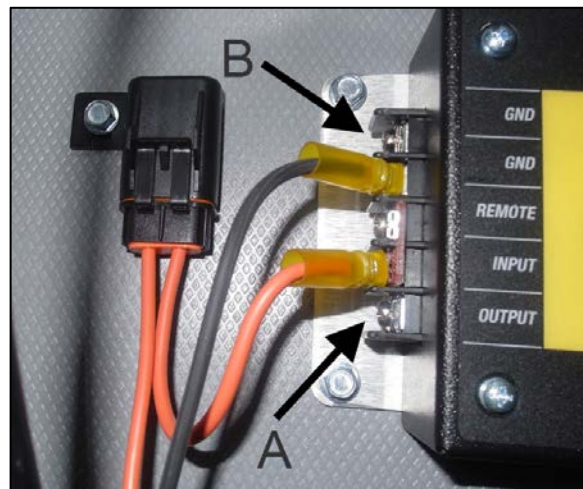

FIGURE 10
17. Test the converter with a voltmeter. Turn the ignition switch to the "ON" position. Use the converter Output connection for positive (item A, Figure 10) and the Ground connection (GRN, item B, Figure 10). The value should be around 13.8V.